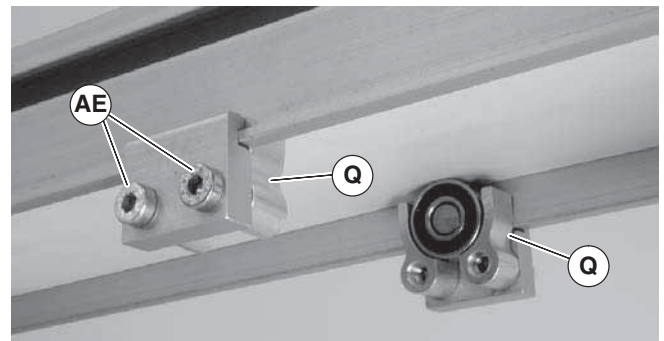

Figure 14
- Install roller assemblies (Figure 14, item Q) as shown. Tighten screws (AE) to 60 in-lb (7 Nm).